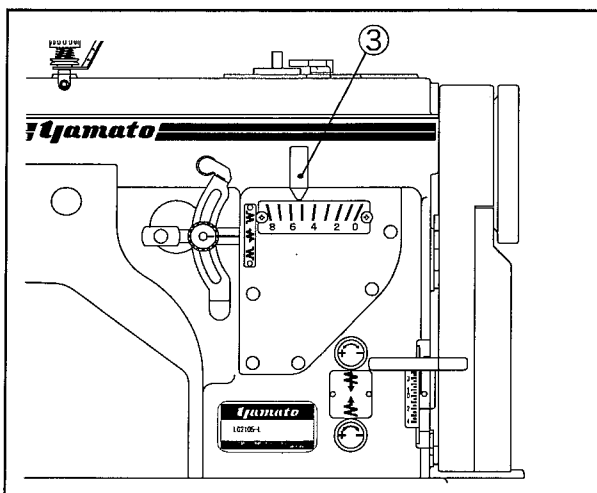

Fig.25
To adjust the stitch width, move the lever ③ in Fig.25.